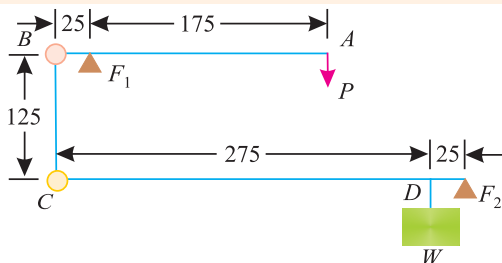

Fig. 3.21.
**Example 3.13.** A compound lever shown in Fig. 3.21 is required to lift a heavy load  $W$